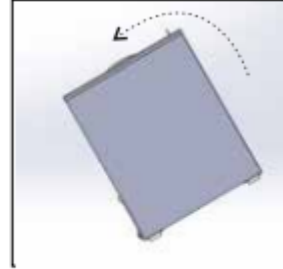

Fig. 3
- By placing the container as shown in figure 3, mount the two castors in the castor box as shown in figure 5, by applying the same procedure.